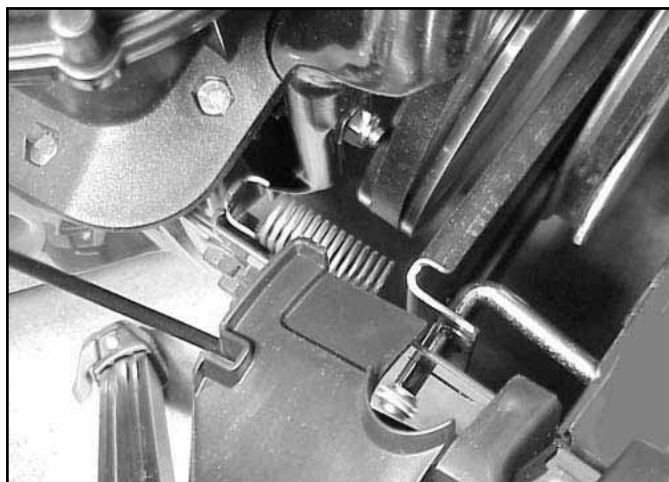

Fig 137
20. Remove extension cover (Fig. 137).